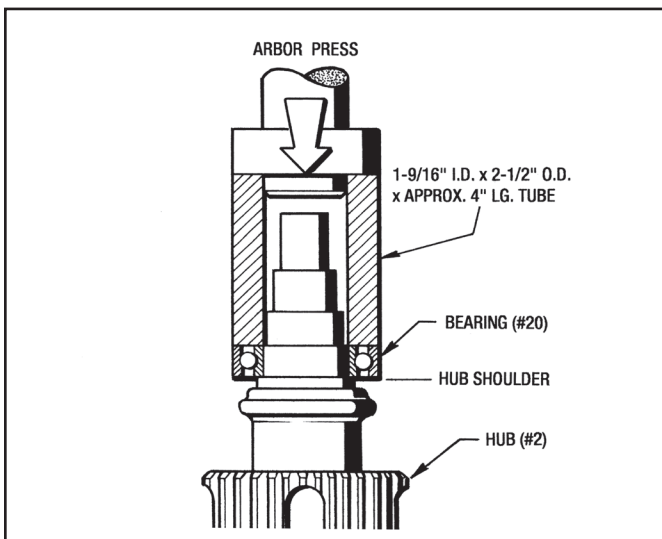

Figure 9.1 - Installing Bearing (#20)
1. Heat up the Bearing (#20) in an oven to 200° F. and drop it on the Hub (#2) or press it on to the Hub (#2) with an arbor press until it seats against the shoulder. (See Figure 9.1)